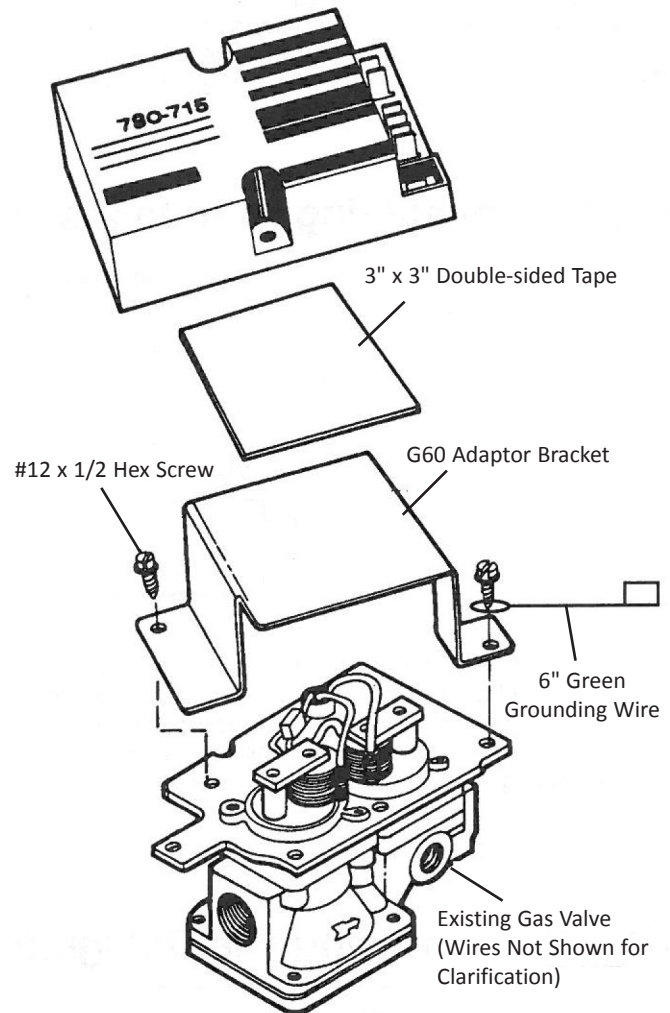

Figure 2
1. Locate the G60 adaptor bracket, 6" green grounding wire and using the two #12 x 1/2" sheet metal screws provided, mount the adaptor bracket and 6" ground wire to the gas valve mounting plate as shown in Figure 2. The adaptor bracket fits onto the mounting plate in more than one position. Use the position that gives the easiest access to the mounting screw locations. Actual orientation of the bracket is not important. The screws will accept either a 1/4" flat screwdriver or a 5/16" nut driver. Make sure no wires are pinched between the bracket and mounting plate.
5. Remove the remaining protective backing from the double-sided tape on the ignition module. Center the module over the previously installed bracket and press down. See Figure 2.